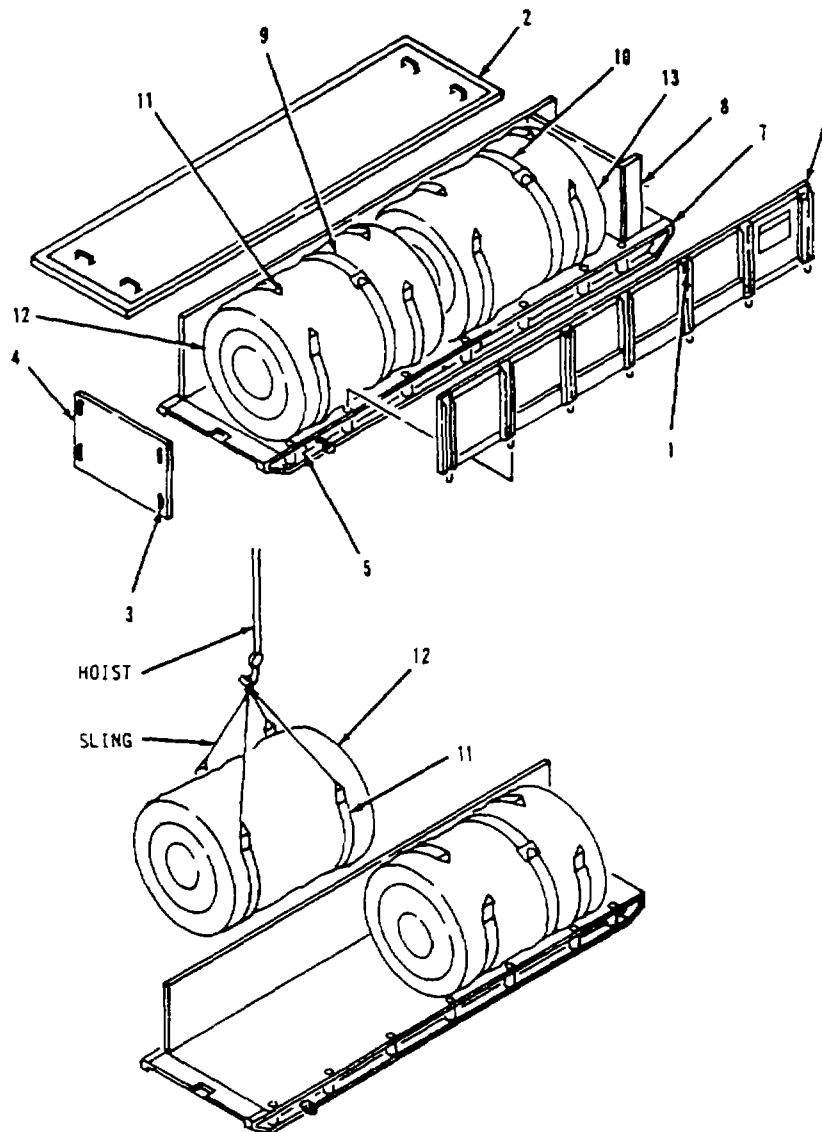

Figure 2-4. Unpacking Water Storage Tank(s) From Chest.
(4) (Refer to Figure 2-4.) After folding the one 50,000 gallon water tank or the two 20,000 gallon water tanks as specified by the applicable tank technical manual, use the four hoisting straps to place the water tank(s) into the WTSC. Remove hoisting straps and store them in the divider storage pan area of the WTSC.
b. Unpacking One 50,000 Gallon Water Tank or Two 20,000 Gallon Water Tanks From the WTSC. To remove one 50,000 gallon water storage tank or two 20,000 gallon water tanks from the WTSC, refer to the following steps and to Figure 2-4.